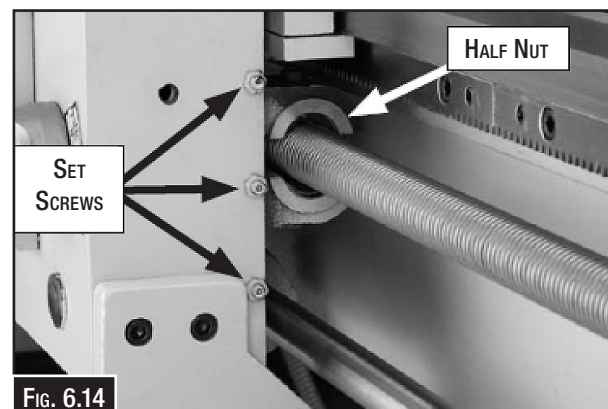

FIG. 6.14
3. Loosen the hex nuts on the set screws shown in Fig. 6.14.